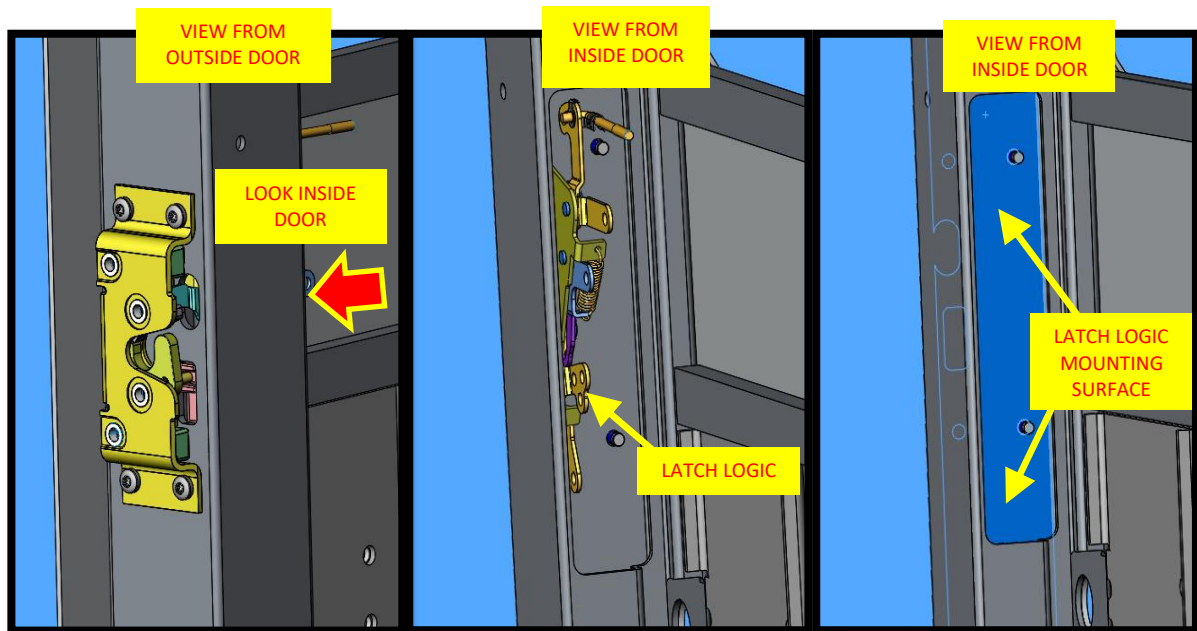

FIG. 13-1
12. Inspect the area beneath the latch logic on the inside of the door frame for a polyurea coating such as Line-X®. Refer to FIG. 13-1. If a coating is present beneath the latch logic (Latch logic mounting surface), it must be removed prior to installing the new latch. Use a scraper or similar tool to remove the coating from the area.